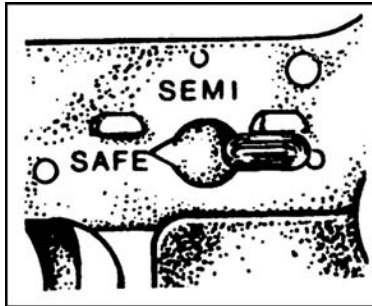

Figure 071-311-2026-1. Selector lever in the SAFE position
1. Check an M16A1, M16A2, or M16A4 with the selector lever in the SAFE position (figure 071-311-2026-1).